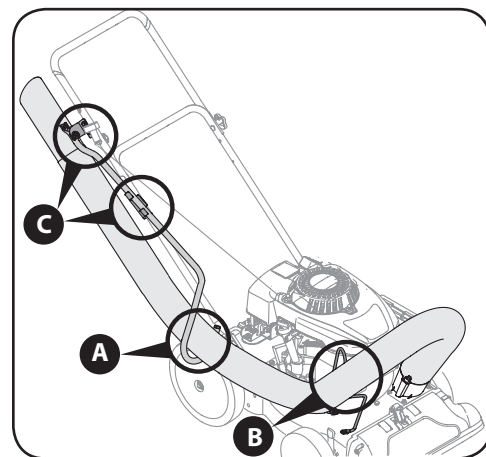

Figure 3-5
4. Lay hose tubing in curved end of hose handle next to chipper chute and into hose cradle. See A and B in Figure 3-5.
5. Snap the hose handle first into the upper hose handle bracket and then into the lower hose handle bracket. See C in Figure 3-5.